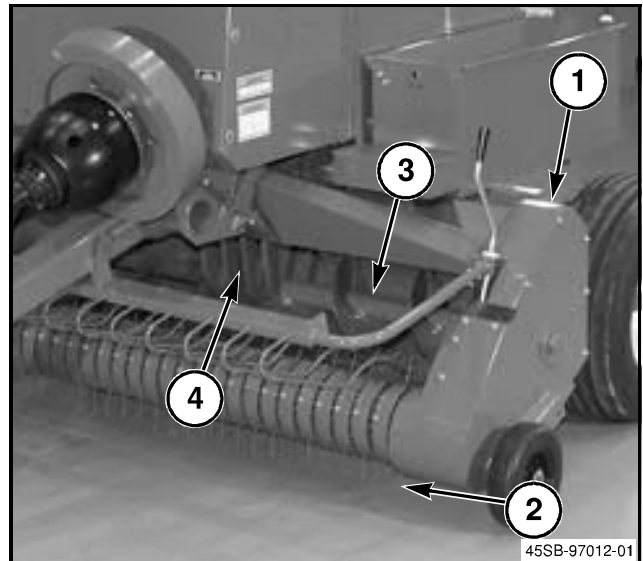

FIG. 9
FIG. 9: Continuous flow, straight through feeding is possible with the wide, low profile pickup assembly (1). Hay from the windrow is picked up by the closely located tines (2) of the pickup assembly and moved by an auger (3) into a charge chamber (4). The in line charge chamber feeds the baling chamber from the bottom.